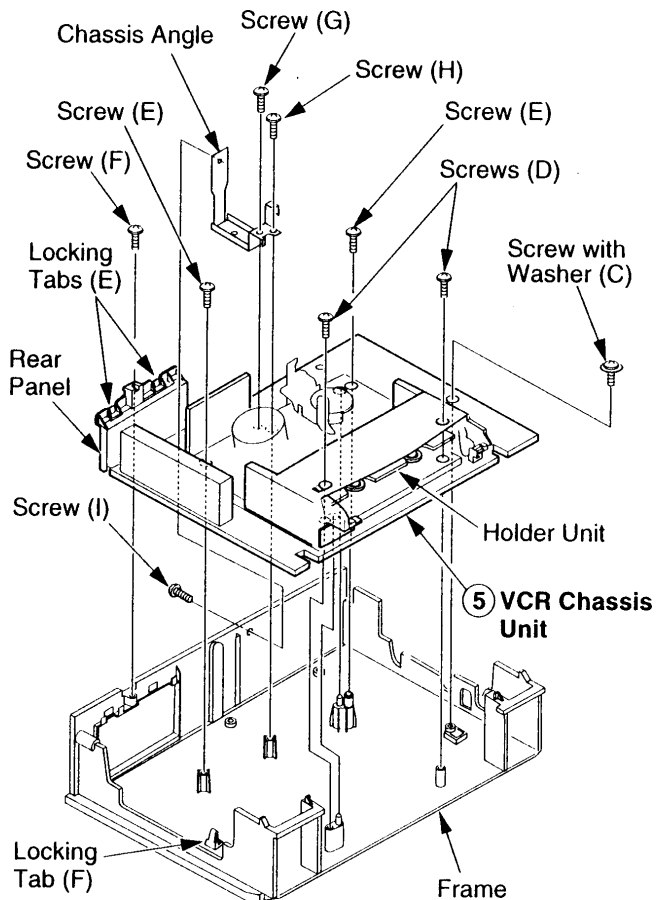

Fig. 8 - VCR Chassis (Mechanism) Removal
INSTRUMENT DISASSEMBLY (Continued)**VCR Chassis (Mechanism) Removal (Figs. 8, 9)**
1. Slide the holder unit slightly to access the two (2) screws (D) and remove the two (2) screws (Fig 8). Refer to the procedure "**Manually Loading/Unloading of the Mechanism**" in the "Service Notes" section of this service manual.
2. Remove five (5) screws (E, F, G, H, I) and one (1) screw with washer (C).